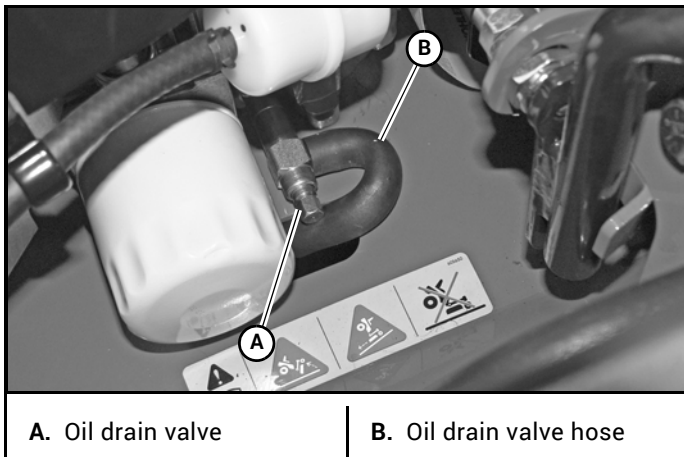

Figure 4-8
1. Locate the oil drain valve on the lower right side of the engine. Figure 4-8
2. Locate the oil drain hose that was supplied with the machine. Be sure to clean and clear it of debris that might block the flow of the engine oil. Figure 4-8
3. Attach one end of the hose onto the oil drain valve nipple. Make sure the hose is pushed all the way onto the valve. Figure 4-8
8. Clean the oil drain hose and store it appropriately. Figure 4-8